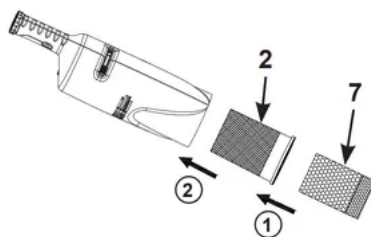

Fig 2.2
For vacuuming fine-small particles, insert the micro-filter bag (7) into the filter bag (2) before inserting the filter bag (2) into the vacuum body (1). See fig 2.2.